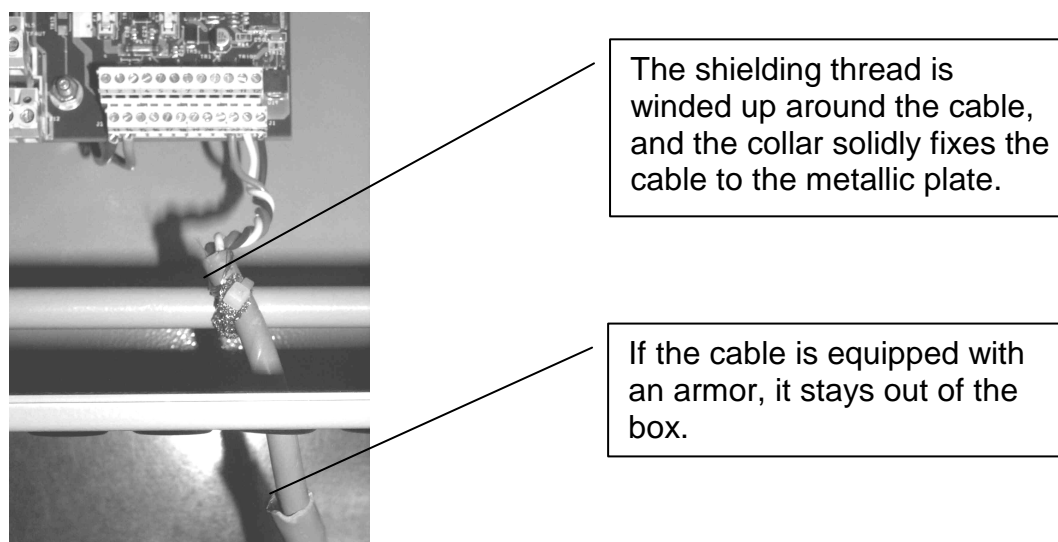

Figure 6: Cable fixation
2. Cable fixation: see Figure 6.